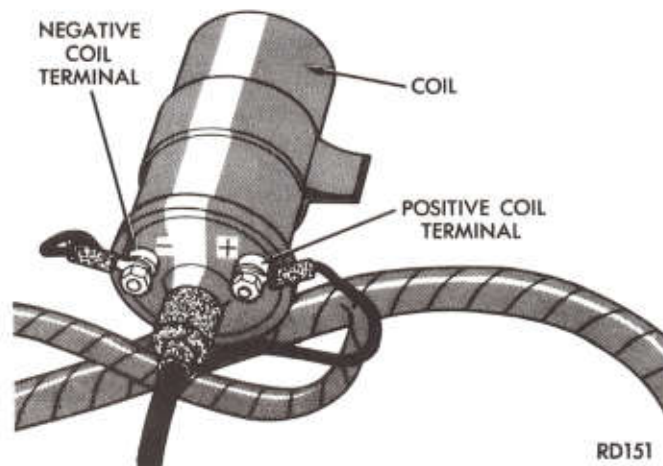

Fig. 2—Coil Terminals
(1) Visually inspect all secondary cables at (Fig. 2) coil, distributor and spark plugs for cracks and tightness.
(2) Check primary wire at the ignition coil and ballast resistor for tightness. If above checks do not
(12) If circuit is not continuous between battery and coil positive (Fig. 2 and 5) replace ignition resistor and repeat Step (10).